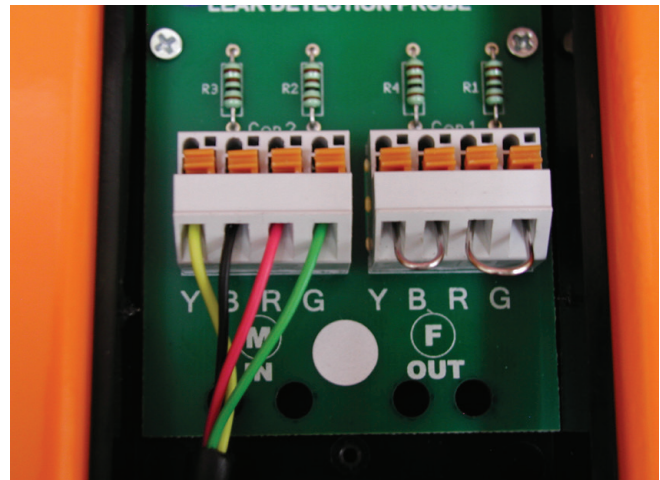

Figure 2A. Single probe wiring configuration with wire loops on terminal strip labeled OUT
- If the TT-FLAT PROBE is being used as a single probe (or as the last component of a larger chain), refer to Figure 2A for guidance in making proper wiring connections.
- Connect the colored wires in the jumper cable segment with the male connector end per the Yellow (Y), Black (B), Red (R), Green (G) markings next to the terminal strip labeled IN.
- Create two wire loops, and install them on the terminal strip labeled OUT per the Illustration. One loop connects Yellow (Y) and Black (B), the other Red (R) and Green (G).